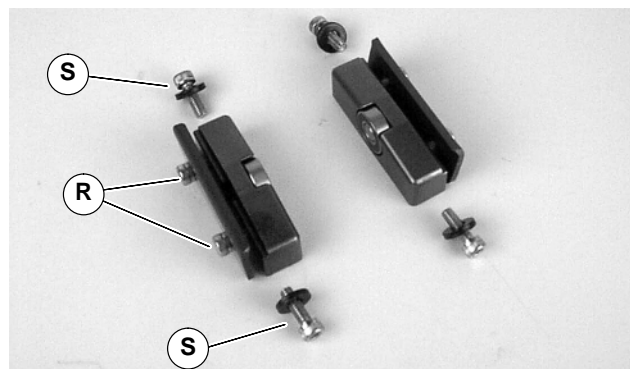
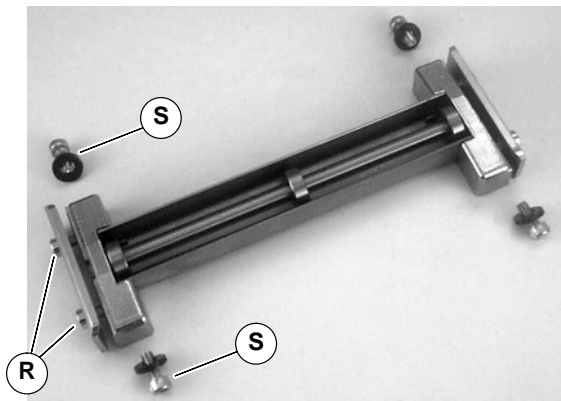

Figure 14
Figure 17
2. Loosen, do not remove, bracket screws (R of Figure 14). Remove mounting screws and washers (S).
2. Assemble components (Figure 17). Loosen, do not remove, bracket screws (R of Figure 14). Remove mounting screws and washers (S).